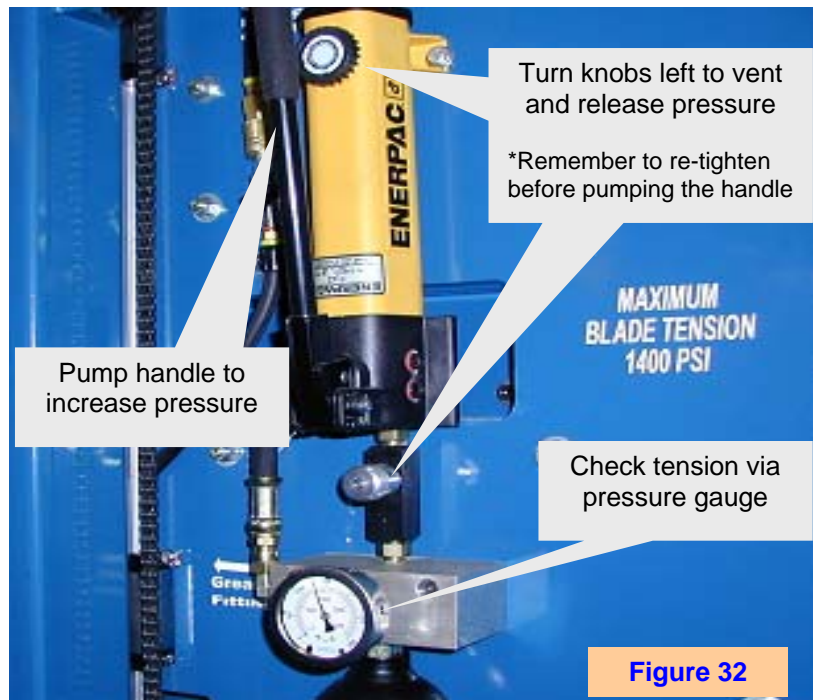

Figure 32
Daily	<input type="checkbox"/> Check band blade tension ensuring proper pressure for the size of blade in use. → 1 1/4" blade -- 1,400 PSI (see Figure 32 on page 32) → 1 1/2" blade -- 1,700 PSI (see Figure 32 on page 32) → 2" blade -- 1,900 PSI (see Figure 32 on page 32)
- ☐ Release blade tension by venting the hydraulic pressure (see **Figure 32** on page 32).